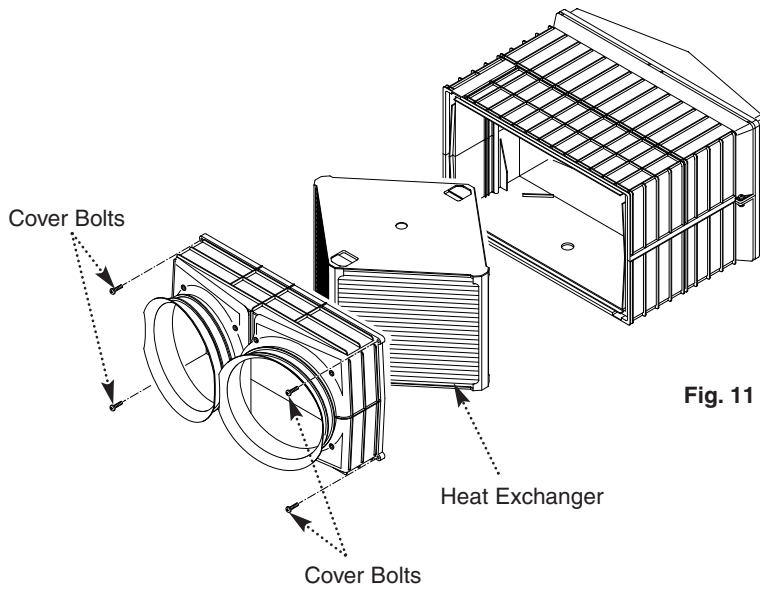

Fig. 11
2. The cassette is easily extracted by unscrewing the 4 x M6 cover bolts (Fig. 11).